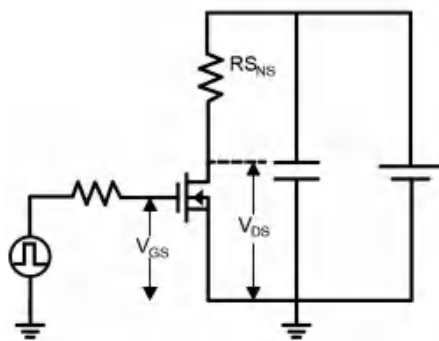

Figure 17. Dynamic $R_{DS(on)eff}$ Test Circuit
c. Dynamic on-resistance; see Figure 17 and 18 for test circuit and configurations